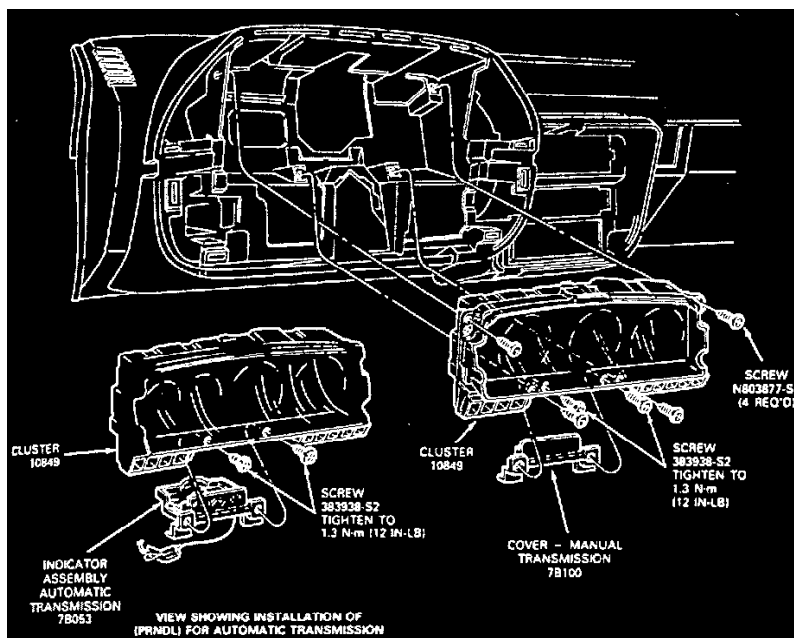

Fig. 5 Exploded View Of Instrument Cluster, 1988-91 Bronco & F-series.
4. Remove steering column opening cover, then disconnect transmission selector indicator cable, if equipped, **Figs. 5 and 6**. The cover fasteners are